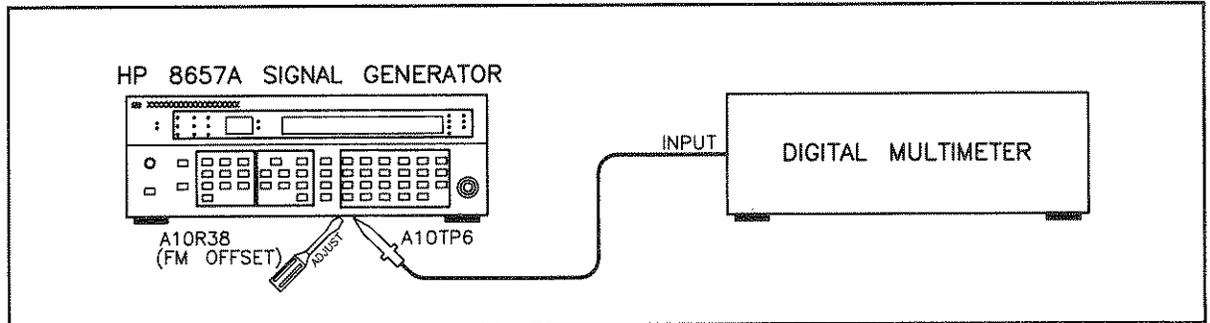

Figure 5-21. DC FM Offset Adjustment Setup
4. Connect the Signal Generator RF OUTPUT to the spectrum analyzer SIGNAL INPUT 2 and the MOD INPUT/OUTPUT to the power supply +1 Vdc as shown in Figure 5-21.
4. Connect the digital multimeter to A10TP6 as shown in Figure 5-21.